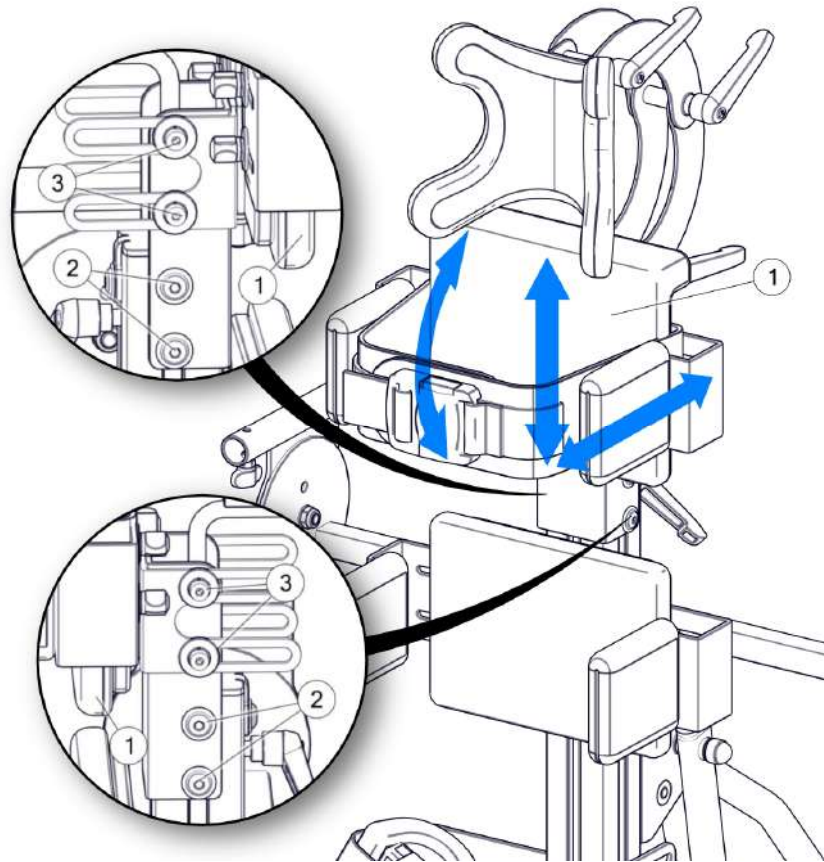

Fig. 9
Fig. 9 Lateral support is used to support the patient at trunk and pelvic height. To accurately adjust the height to the patient, adjust the position of the support (1) by loosening the screws (2). The trunk support can also be adjusted in terms of support depth and angle in the lateral plane. To adjust the depth of the support, loosen the screws (3). Once in the desired position, retighten the screws (2) and (3).